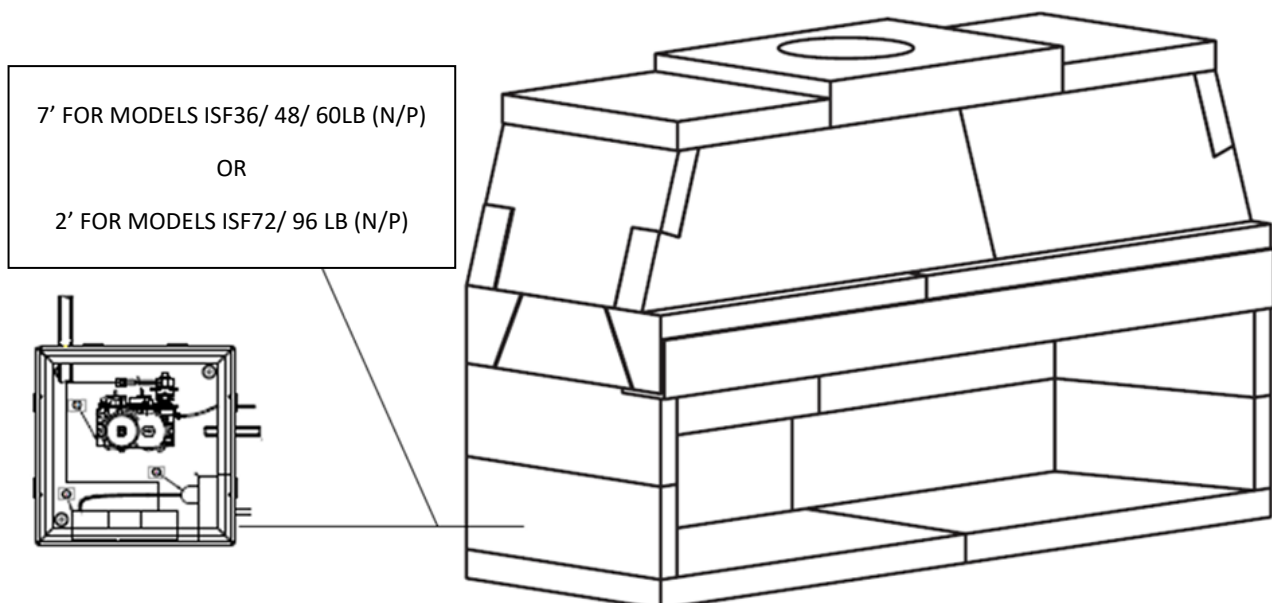

FIGURE 41
- 1) The valve control box comes with an 110" pilot assembly lead; therefore, the box must be mounted within 7' of the fireplace for models ISF36/48/60LB and within 2' for models ISF72/96LB. **(Figure 41)**. This location should be within 4' (48") of the Meridian Control Panel.